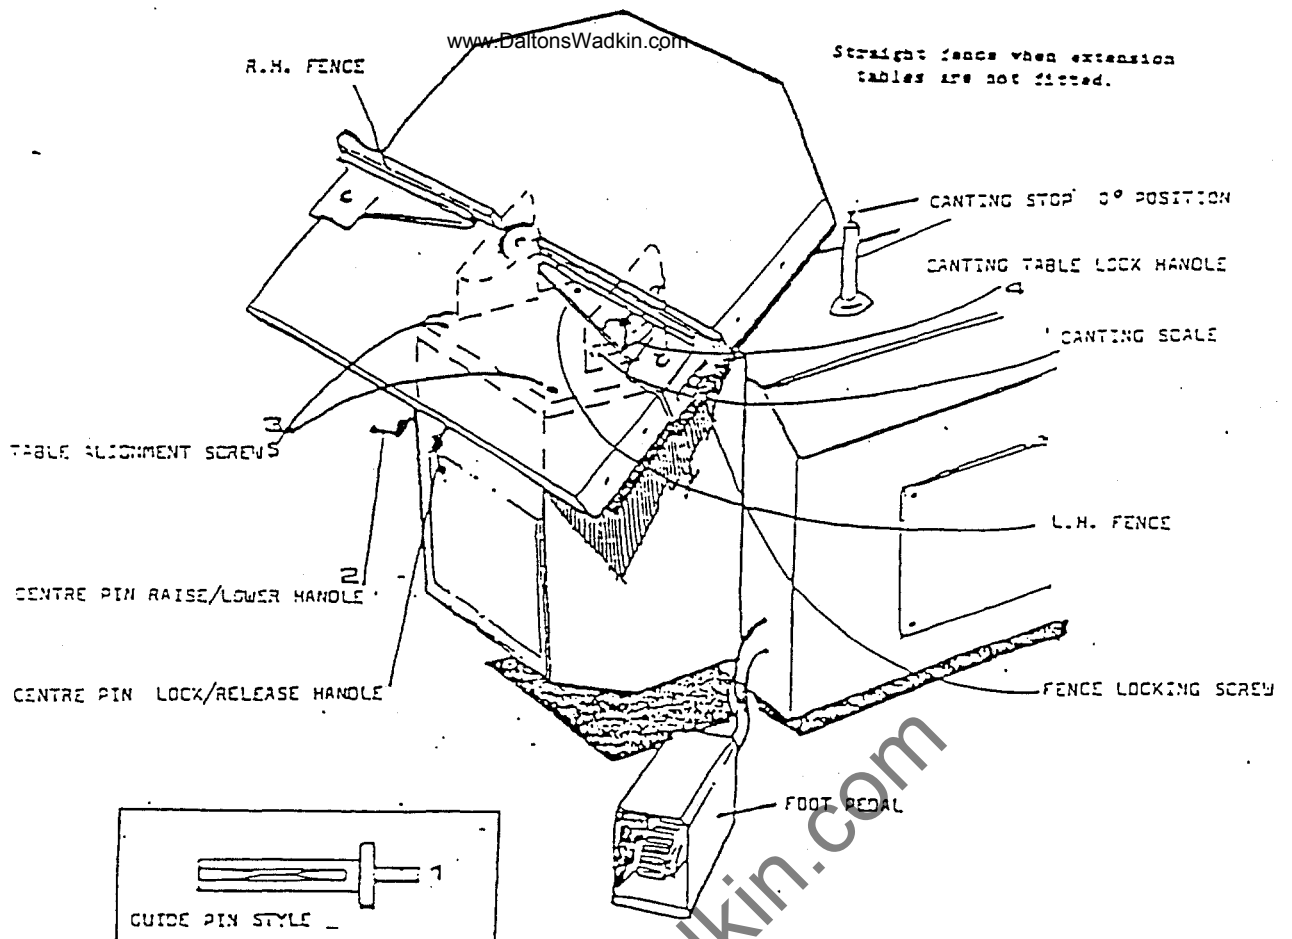

FIG. 11 LAYOUT OF CANTING TABLE MODEL UX2
1. Pin (1) can be set at three different heights by selecting Raise/Lower Handle (3).
3. Should alignment be incorrect, loosen four screws (4) under table and reset as necessary.
4.7 CANTING TABLE MODEL UX 2 (See Fig. 11)
2. Should alignment be incorrect loosen four screws (3) which secure canting unit to knee bracket and reset as necessary.
3. Fences can be adjusted to suit, either in front of pin as shown in Fig. 11 or behind pin when table is in 0° to-10° position.